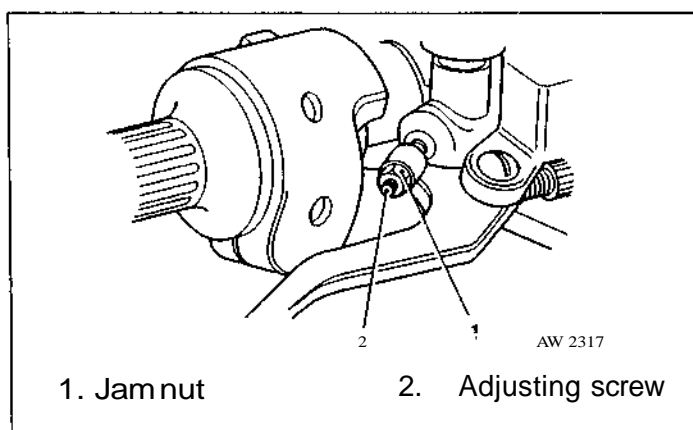

Fig 12.1 Front Brake Control Lever Free Play Adjustment
- (1) Fig 12.1 refers. Loosen jam nut(1).
- (2) Turn adjusting screw (2) until lever is comfortable for rider.